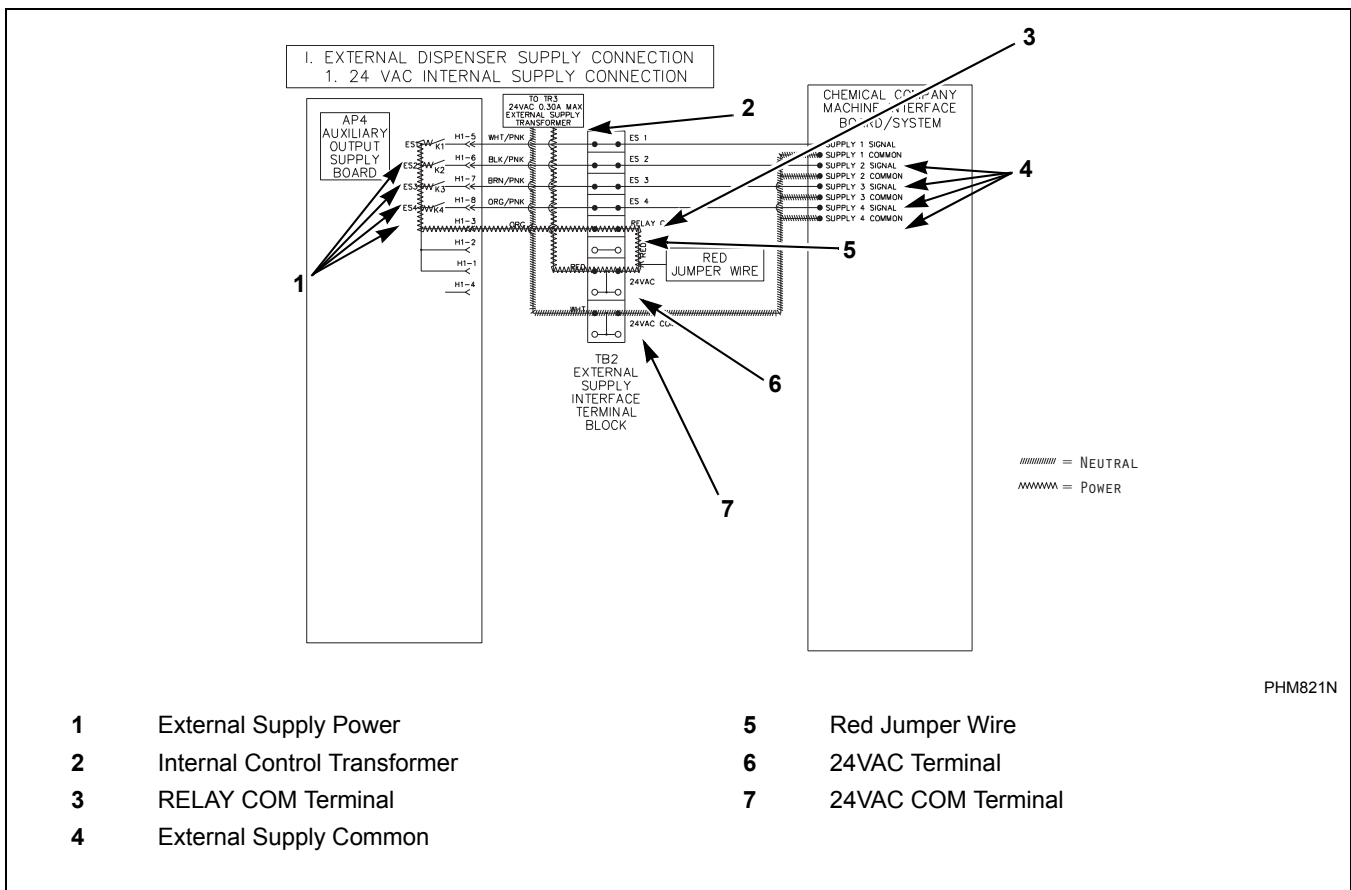

Figure 26
- The second terminal is used to connect the other side of the control transformer to the washer-extractor output signals common through a red jumper wire between "24VAC" and "RELAY COM". Refer to *Figure 26*.